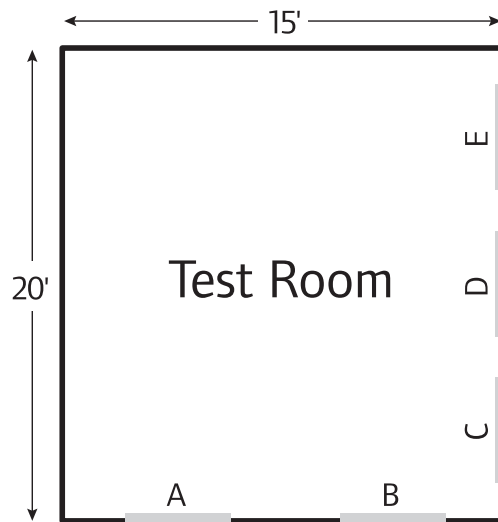

Figure 7-2: Test Room
- **Calculation Area:** This value represents the area to be analyzed. This example uses the room shown in **Figure 7-2**.